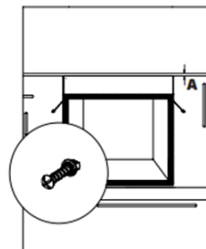

Figure 5
- After installation, the clearance that shall be left between the bottom of the counter and the top of the appliance is indicated by "A" in Fig. 5. The clearance is for ventilation and should be closed.
- Secure the oven to the furniture using the screws supplied with the appliance. Screws shall be installed by putting them through the plastics attached on the frame of the appliance as shown in Fig. 5. The screws shall not be tightened too much. Otherwise, the screw holes may wear out.